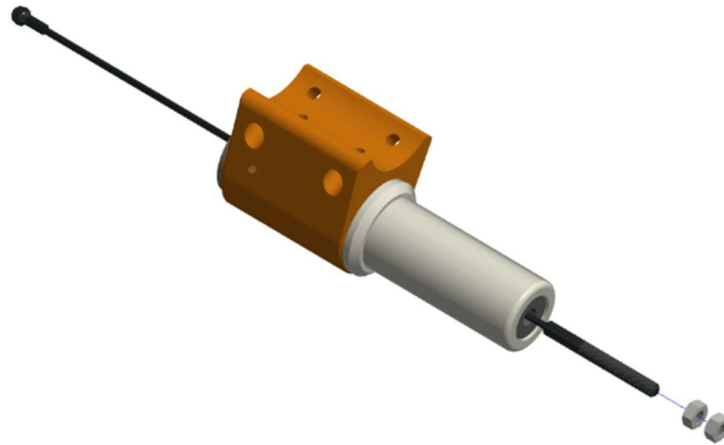

Figure 10-54. Apply the two M5 Hex Nuts to the Achilles Cable (474-5530)
- 10.3.19 Apply the two M5 Hex Nuts to the top end of the Achilles Cable (474-5530) (Figure 10-54).